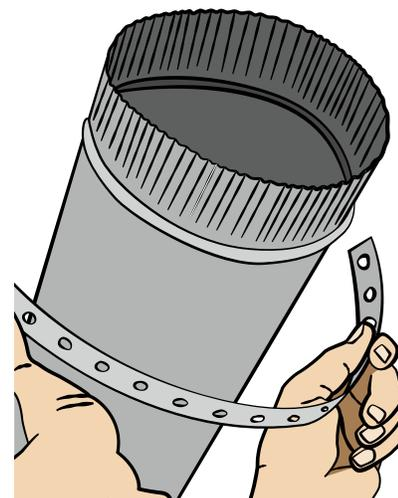

FIG. 10d
- b. Raise ductwork into place and grab the open end of the Hanger Strap, pulling it against the pipe and securing it to the wall/ceiling [FIG. 10d].